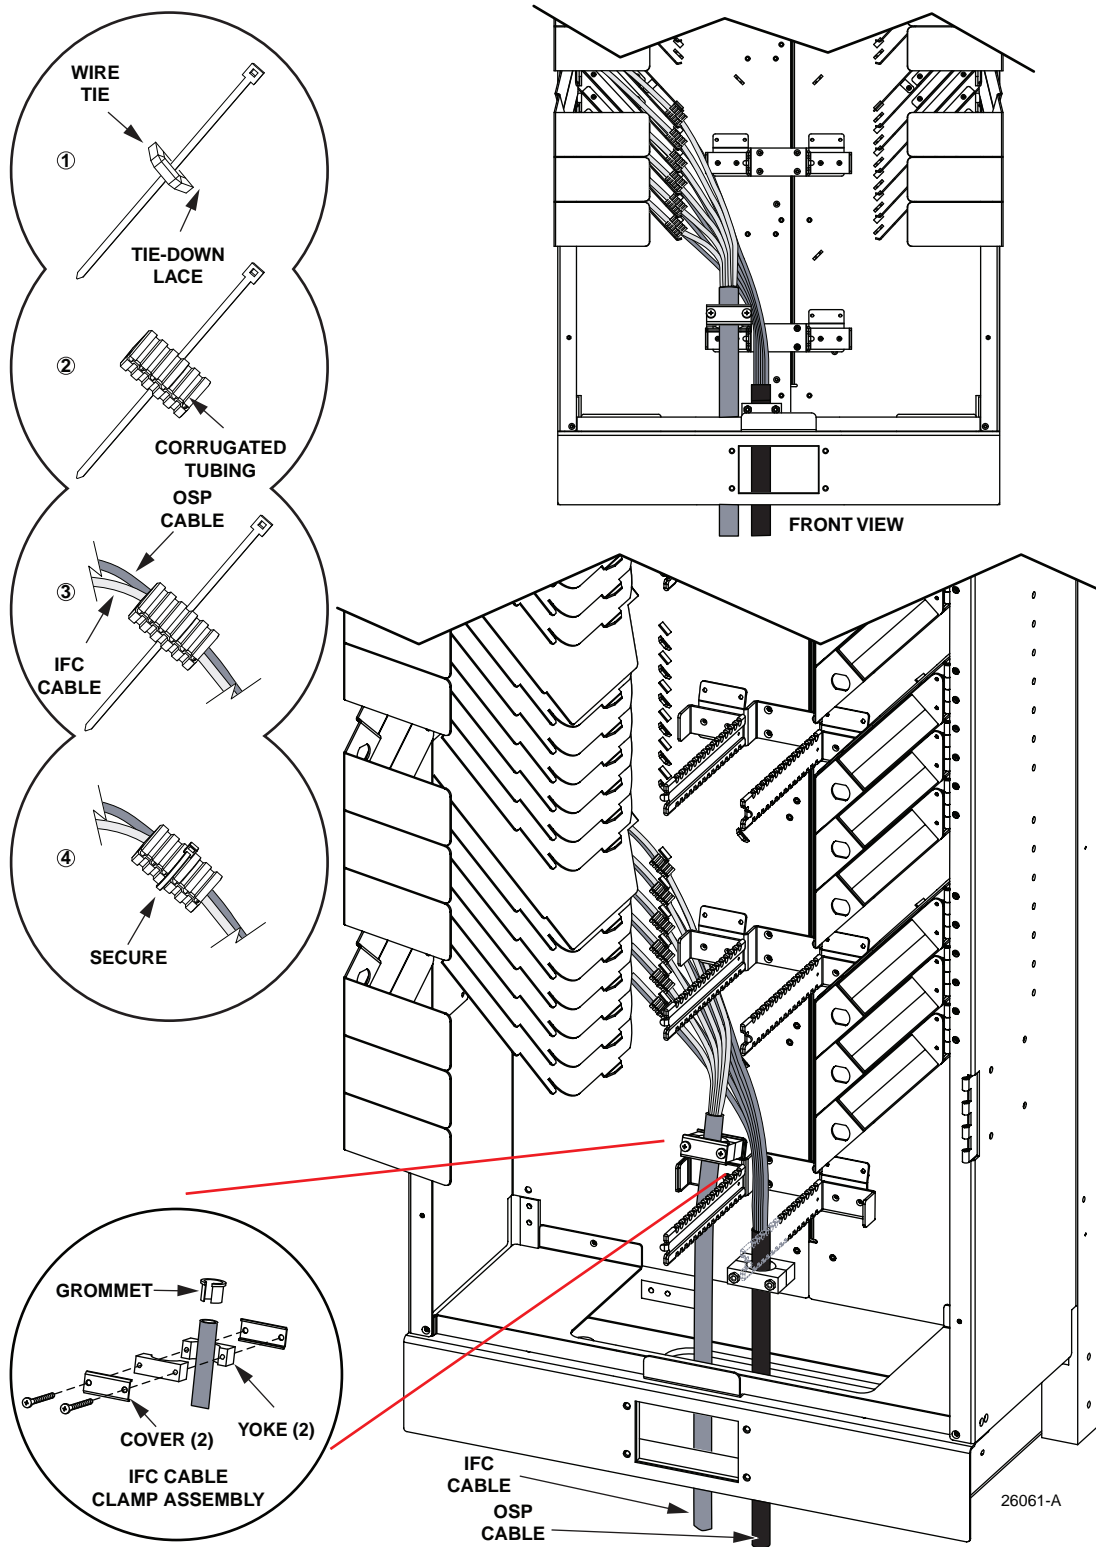
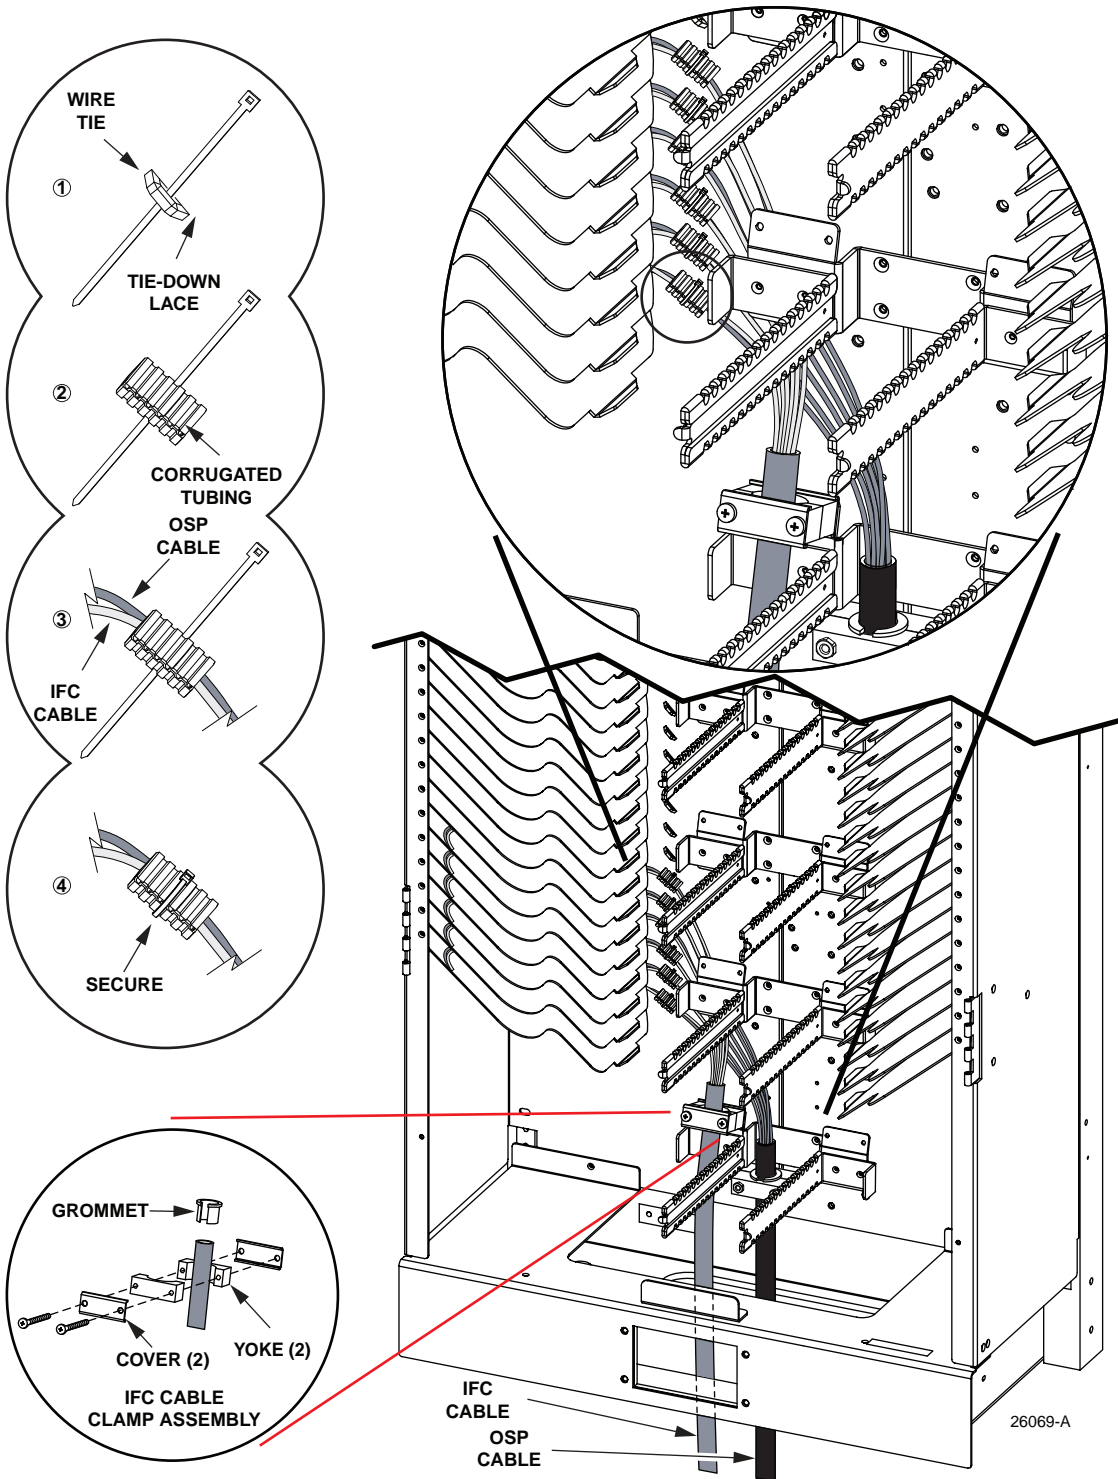

Figure 8. IFC Cable Routing (Raised Floor Cable Environment)
Figure 16. IFC Cable Routing (Raised Floor Cable Environment, 72-Fiber IFC Configuration)
2. Route and secure IFC cable to the bay as shown in Figure 8.
- Route and secure IFC cable to the bay as shown in Figure 8. Route and secure first IFC cable to the bay as shown in Figure 16 Use corrugated tubing to secure IFC and OSP cables to the frame as shown.